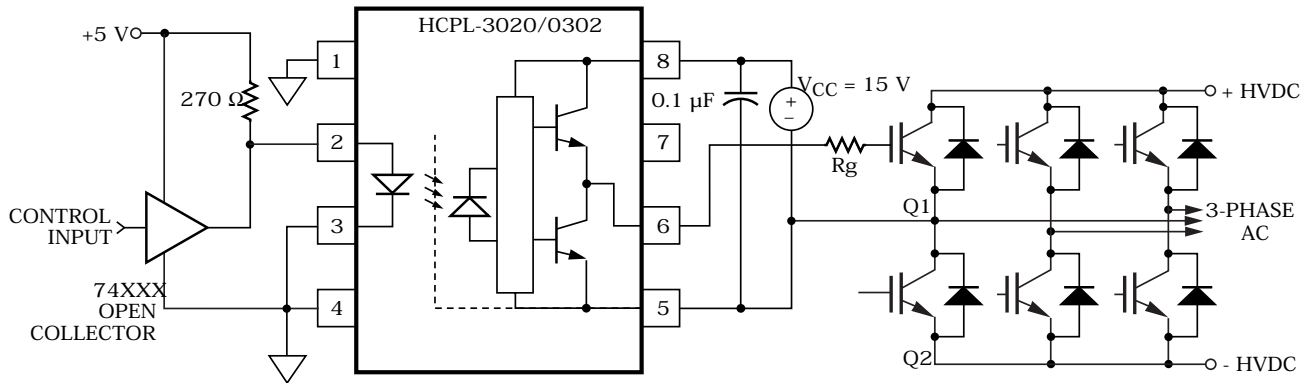
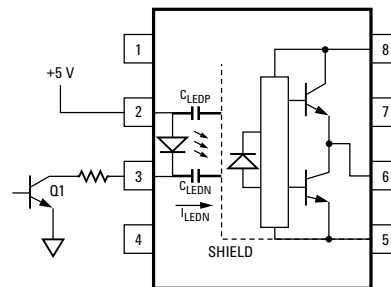

Figure 17. Recommended LED drive and application circuit for HCPL-3020 and HCPL-0302.
Figure 22. Not recommended open collector drive circuit.
To keep the IGBT firmly off, the HCPL-3020 and HCPL-0302 have a very low maximum  $V_{OL}$  specification of 1.0 V. Minimizing  $R_g$  and the lead inductance from the HCPL-3020 or HCPL-0302 to the IGBT gate and emitter (possibly by mounting the HCPL-3020 or HCPL-0302 on a small PC board directly above the IGBT) can eliminate the need for negative IGBT gate drive in many applications as shown in Figure 17. Care should be taken with such a PC board design to avoid routing the IGBT collector or emitter traces close to the HCPL-3020 or HCPL-0302 input as this can result in unwanted coupling of transient signals into the input of HCPL-3020 or HCPL-0302 and degrade performance. (If the IGBT drain must be routed near the HCPL-3020 or HCPL-0302 input, then the LED should be reverse biased when in the off state, to prevent the transient signals coupled from the IGBT drain from turning on the HCPL-3020 or HCPL-0302.
**Step 1:** Calculate  $R_g$  minimum from the  $I_{OL}$  peak specification. The IGBT and  $R_g$  in Figure 17 can be analyzed as a simple RC circuit with a voltage supplied by the HCPL-3020.
where  $K_{I_{CC}} \cdot Q_g \cdot f$  is the increase in  $I_{CC}$  due to switching and  $K_{I_{CC}}$  is a constant of 0.001 mA/(nC\*kHz). For the circuit in Figure 17 with  $I_F$  (worst case) = 10 mA,  $R_g = 57.5 \Omega$ , Max Duty Cycle = 80%,  $Q_g = 100$  nC,  $f = 20$  kHz and  $T_{AMAX} = 85^\circ\text{C}$ :
perturbations in the LED current during common mode transients and becomes the major source of CMR failures for a shielded optocoupler. The main design objective of a high CMR LED drive circuit becomes keeping the LED in the proper state (on or off) during common mode transients. For example, the recommended application circuit (Figure 17), can achieve  $10 \text{ kV}/\mu\text{s}$  CMR while minimizing the component complexity.
The open collector drive circuit, shown in Figure 22, cannot keep the LED off during a  $+dV_{CM}/dt$  transient, since all the current flowing through  $C_{LEDN}$  must be supplied by the LED, and it is not recommended for applications requiring ultra high CMR1 performance. The alternative drive circuit, which like the recommended application circuit (Figure 17), does achieve ultra high CMR performance by shunting the LED in the off state.